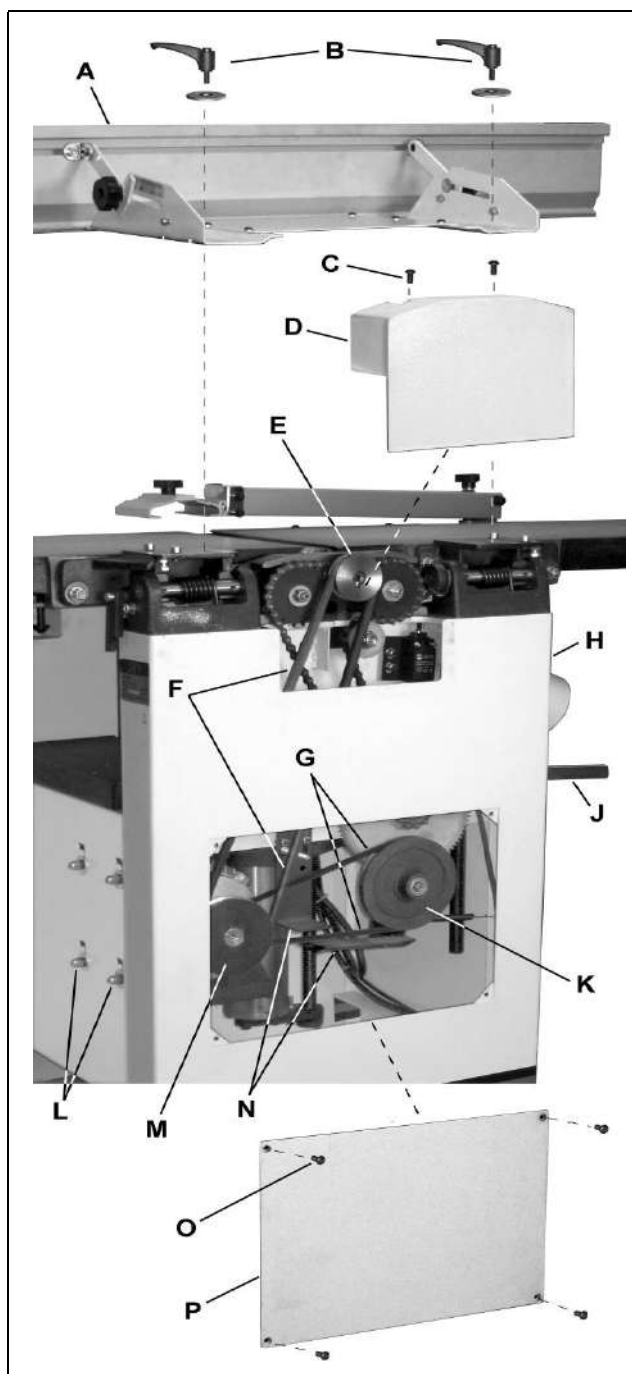

Figure 14
Refer to Figure 14.
1. Remove the jointer fence assembly (A Fig.14) by first loosening and removing two lock handle assemblies (B). A 4mm hex wrench is helpful, but not necessary.
2. Remove two button head socket screws (C) and upper back panel (D).
3. Remove four button head socket screws (O) and lower back panel (P).